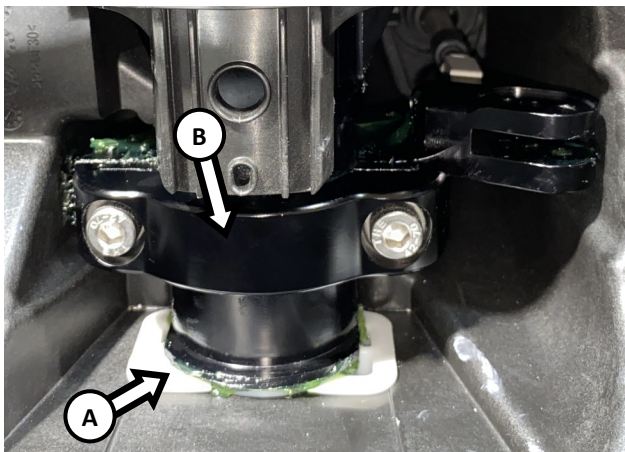

Figure 15
Insert billet steering shaft into steering column support until end of steering shaft is seated completely into lower steering shaft bushing (A). (See Figure 15) **NOTE: Steering shaft fits only one way in steering column.**
Secure billet steering shaft in steering column support with supplied billet steering clamp (B) and M8x25 SHCS & M8 flat washers (2 each). (See Figure 15) **NOTE: Apply red Loctite to threads. Torque to 15lb-ft/20N-m.**